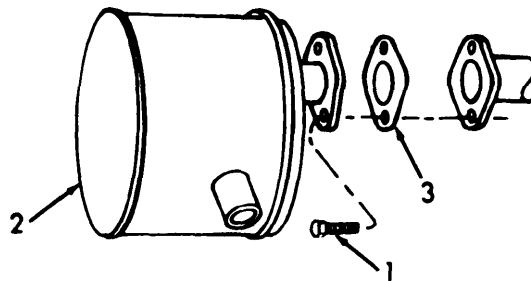

Figure 4-3. Exhaust system removal.
(1) Refer to figure 4-3. Remove screws (1), muffler (2), and gasket (3).
(1) Refer to figure 4-3. Repeat the removal procedure in reverse sequence.